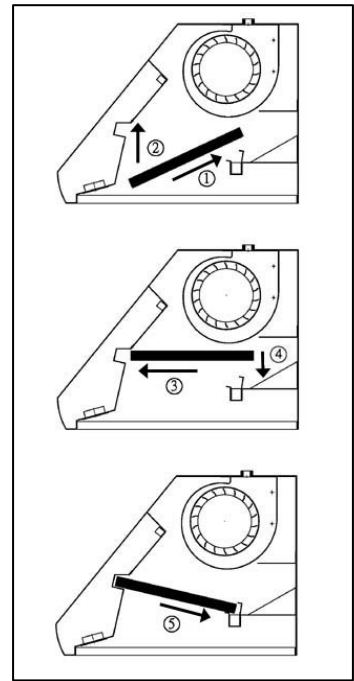

Figure 8
11. Install baffle filters and stainless spacer(s). Refer to Measurements and Diagrams on page 21 for baffle filter and stainless spacer placement. Angle baffle filter toward back of hood ①. Push baffle filter up until almost level ②. Slide forward into recess behind the front of hood ③. Lower baffle filter ④. Slide back until it fits into resting position ⑤. Refer to Figure 8.